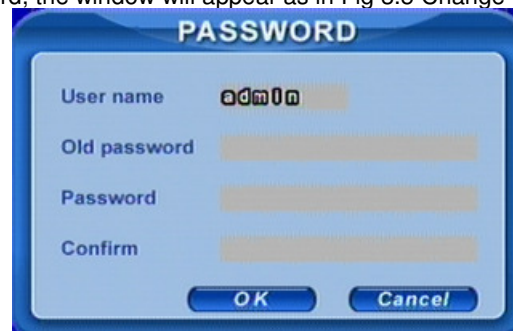

Fig 3.5 Change Password
STEP1 While logged in, click Log in/out on the control bar. A window will appear with two options. One is for logout, another for password modification. Click Password, the window will appear as in Fig 3.5 Change Password.